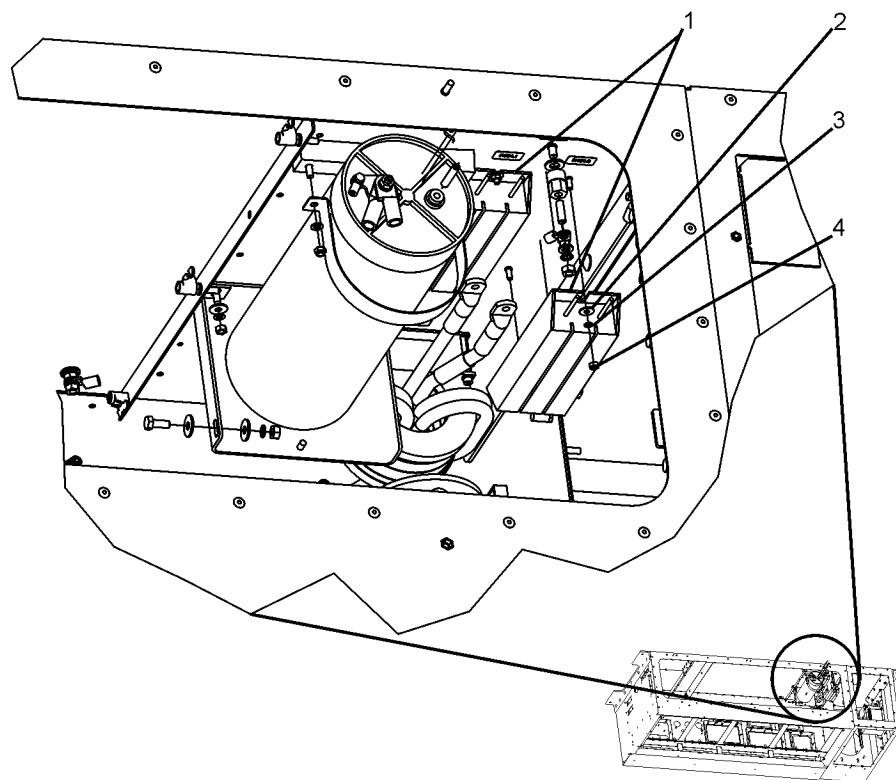

Figure 5-20: R104.1 & R104.2 Anchor Points
7. Detach R104 (see Figure 5-20). The R104 (1) is suspended from two anchor points and is held in place by M4 nuts (4), M4 Schnorr washers (3) and M4 flat washers (2) at each point. Remove these fasteners to detach the R104.
2. Insert R104 (see Figure 5-20). Insert the resistor by aligning the mounting slots on the resistor casing with the anchor points. Orient the resistor with the integrated leads toward the front of the APS, as shown in the figure.
3. Attach R104 (see Figure 5-20). The R104 (1) is suspended from two anchor points and is held in place by M4 nuts (4), M4 Schnorr washers (3) and M4 flat washers (2) at each point. Affix these fasteners to attach the R104. Tighten the nuts to 23 lb-in (2.6 Nm) of torque.